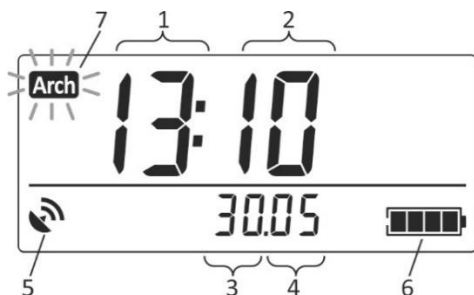

Figure 2.33 – LCD of the dosimeter
2.3.6.9.4.2 The LCD of the dosimeter displays the following information in this mode (Figure 2.33):
- hours (1);
- minutes (2);
- date (3);
- month (4);
- navigation receiver status symbol (5);
- battery status symbol (6);
- sign (7) of critical filling of the dosimeter's nonvolatile memory, where DE accumulation history is stored (2.3.4 of this OM).